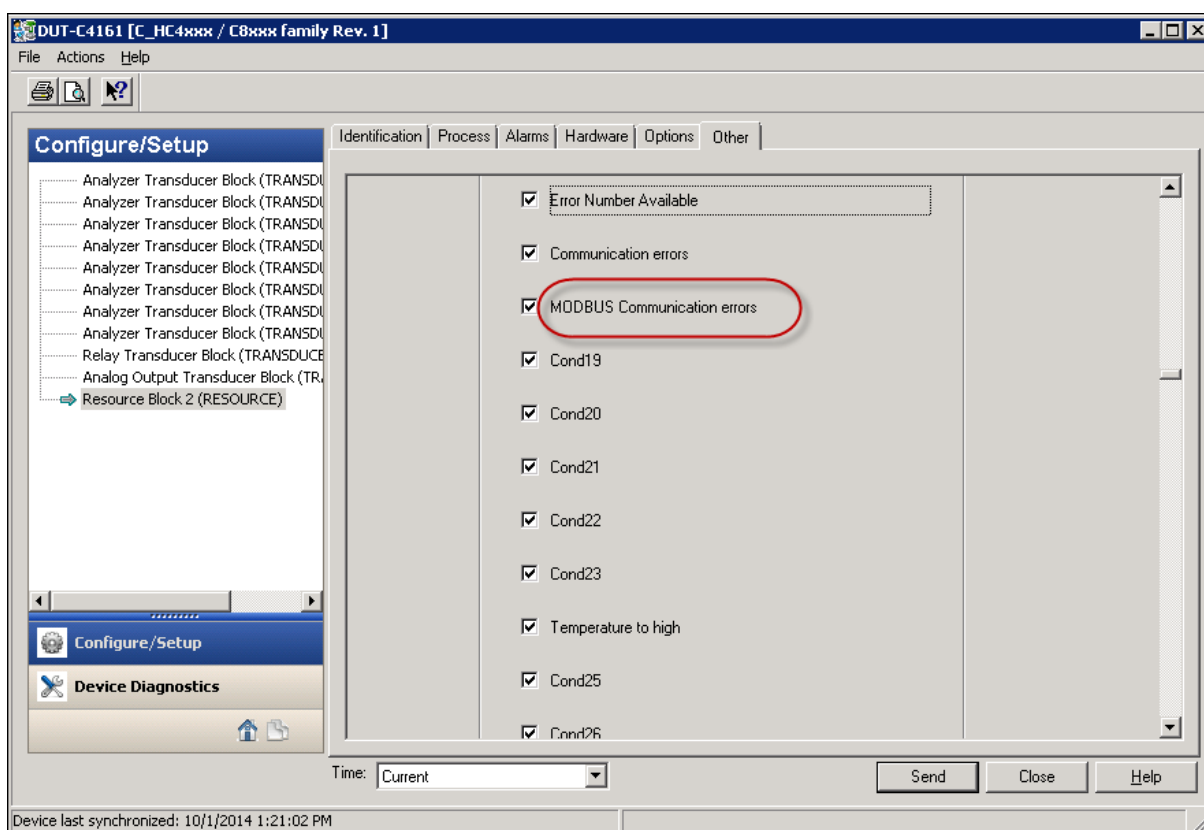

Fig. 16 AMS Suite Alarms not selected
*1) Alarms, which are not used in the device specification of the converter, are always set to active during configuration. These alarms should not be an issue, as no error source in our converter is dedicated to these alarms. Nevertheless if these alarms interfere, you can switch them off manually in your configuration software (see Fig. 16).